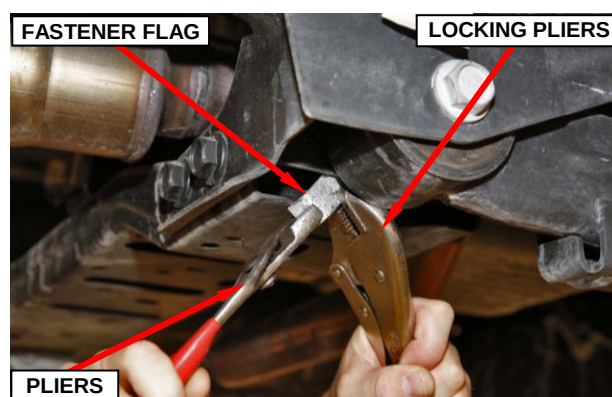

Figure 10 – Bend Fastener Flag
- a. Use locking pliers to clamp the fastener flag in position relative to the vehicle frame to prevent fastener flag rotation while bending the flag (Figure 10).
- b. While the fastener flag is clamped to prevent rotation, use pliers to bend the flag end away from the crossmember until adequate clearance is achieved to allow for crossmember removal (Figures 10 and 11).